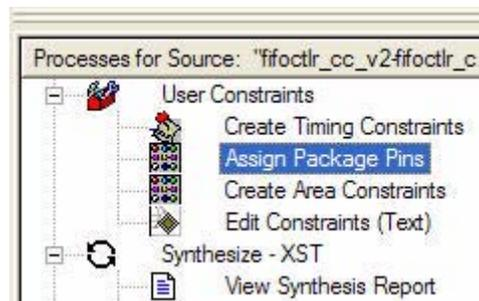

Figure 10: Launch the PACE tool from ISE
1. Launch the PACE tool from ISE (Figure 10) or command line.